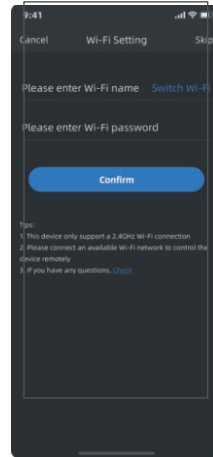

Figure 4
- 4) Figure 4: The Bluetooth **"Connection successful"** is displayed, and after 2 seconds, the **"WiFi settings"** page is entered.